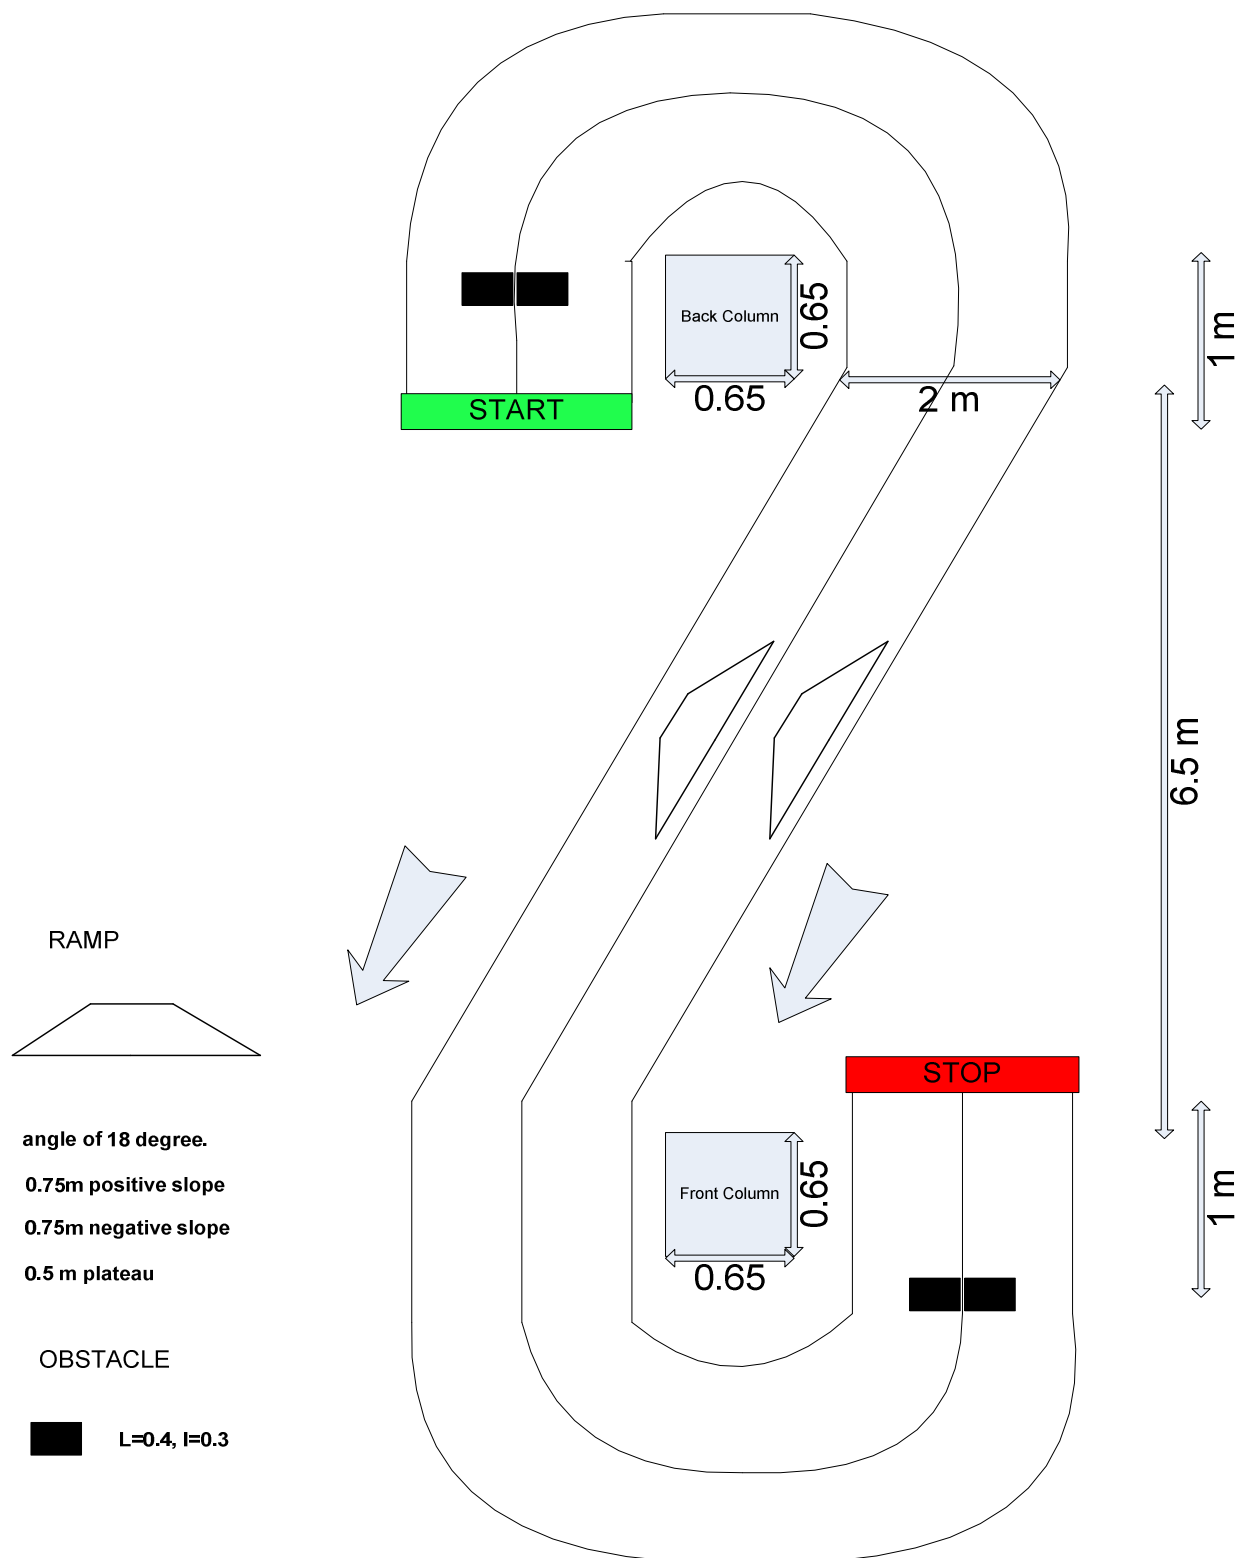

Figure 2
**T1:** The track shape and its dimensions are presented in Figure 2
The obstacles positions in Figure 2 are just for orientation. During the contest, the position of the obstacle will be different than depicted in Figure 2, but will remain the same along the entire event.
**Observation for Figure 2:** The current positions of the obstacles (represented in black) are just for your information. The positions will be defined by the jury and will be different than depicted.